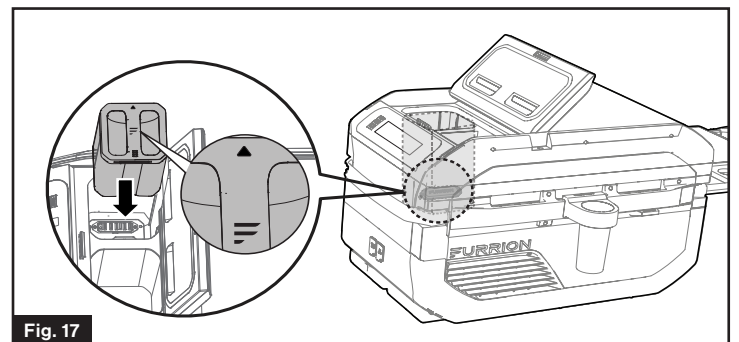

Fig. 17
4. Insert fully the ePod™ battery into the battery compartment with the ▲ icons on the battery and cooler aligned. Close the lid afterwards. (Fig. 17)